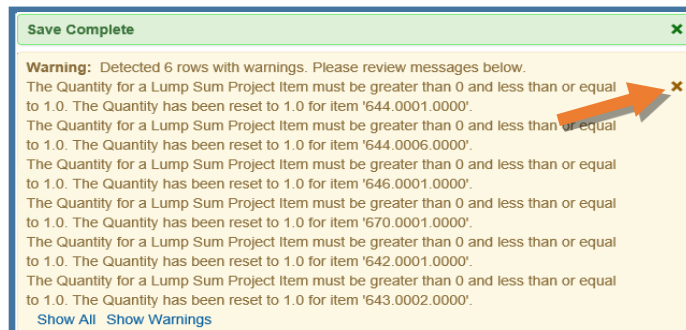

Figure 3.26
- **Lump sum item quantity fields** will autopopulate with a quantity of 1.0. However, a warning message will appear regarding lump sum items needing to be between 0 and 1. You can ignore those warnings and close the warning box (Figure 3.26).
- **Lump sum item quantity fields** will autopopulate with a quantity of 1.0. However, a warning message will appear regarding lump sum items needing to be between 0 and 1. You can ignore those warnings and close the warning box (see *Figure 3.26*).
5. (D) Double click and enter a **Bid Schedule Supplemental Description** if necessary or required (project items with a Bid Schedule Supp Description cannot roll up).